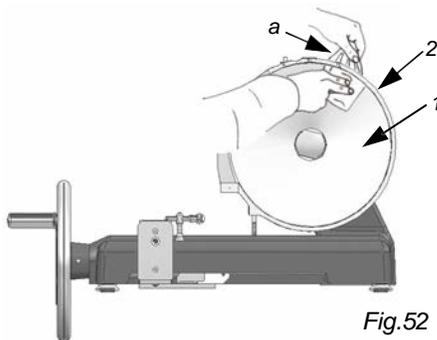

Fig.52
- Pass a damp cloth (a) through the space between the blade (1) and ring (Fig.52 part.2);